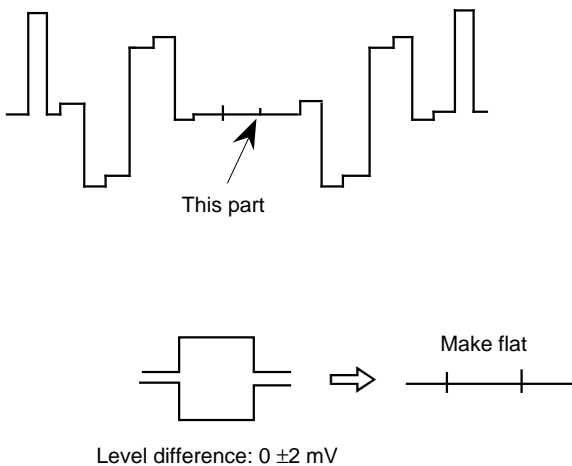

Fig. 5-5
5. As shown in Fig. 5-5, adjust the R-Y CLAMP OFFSET data so that the pedestal and clamp offset pulse level becomes equal.